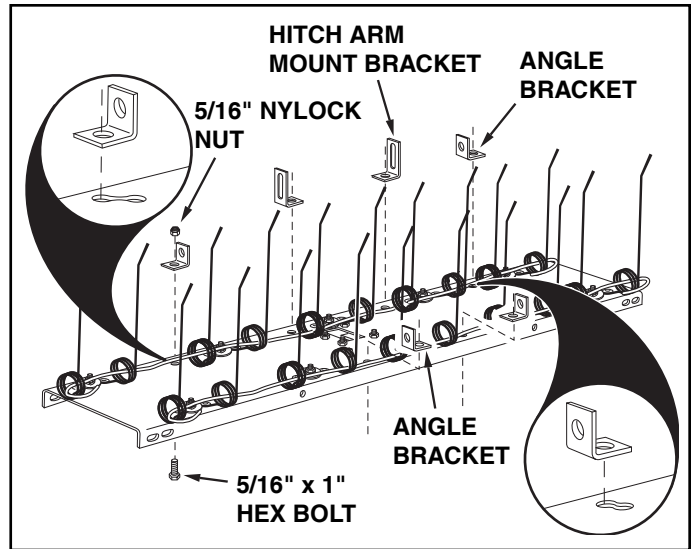

FIGURE 1
- Assemble two (tall) hitch arm mount brackets and two (short) angle brackets to the bottom of the tine shield at the rear. Use four 5/16" x 1" hex bolts and 5/16" nylock nuts. **Do not tighten yet.** Position the brackets as shown in figure 1.
- Assemble two angle brackets to the bottom of the tine shield at the front. Use two 5/16" x 1" hex bolts and 5/16" nylock nuts. **Do not tighten yet.** Position the brackets as shown in figure 1.
- **Tighten** the bolts and nuts assembled in figure 1.